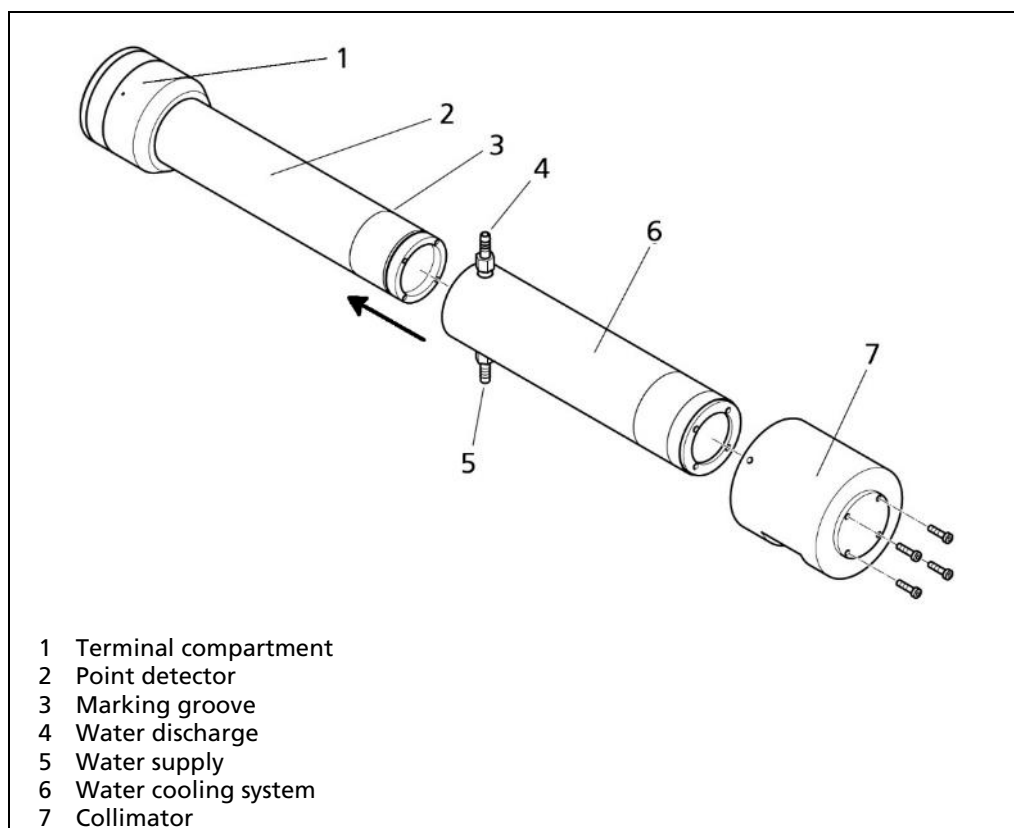

Fig. 60 Point Detector with Water Cooling System
1. Slide the water cooling system (Fig. 60, item 5) with the connecting flange (Fig. 60, item 6) in the direction of the connection chamber